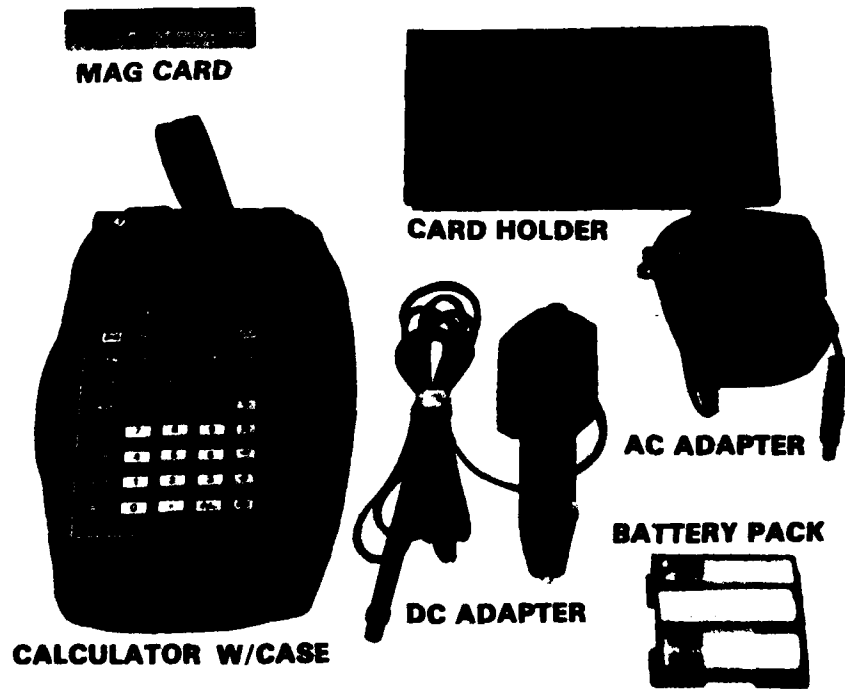

FIGURE 1, COMPUTER SET, FIELD ARTILLERY, GENERAL
a. The Computer Set Field Artillery General (fig 1) is a militarily adapted commercial calculator programmed for cannon gunnery applications. The TI-59 calculator uses preprogrammed memory modules. It is powered by an internal, rechargeable battery pack. Chargers, adapters, and connectors, are provided for attachment to external power sources for extended operations. Light emitting diodes display ten numeric digits, a minus sign, and a decimal point.
b. End Item Description. The component parts are shown in figure 1. The following parts comprise the Computer Set, Field Artillery, General: